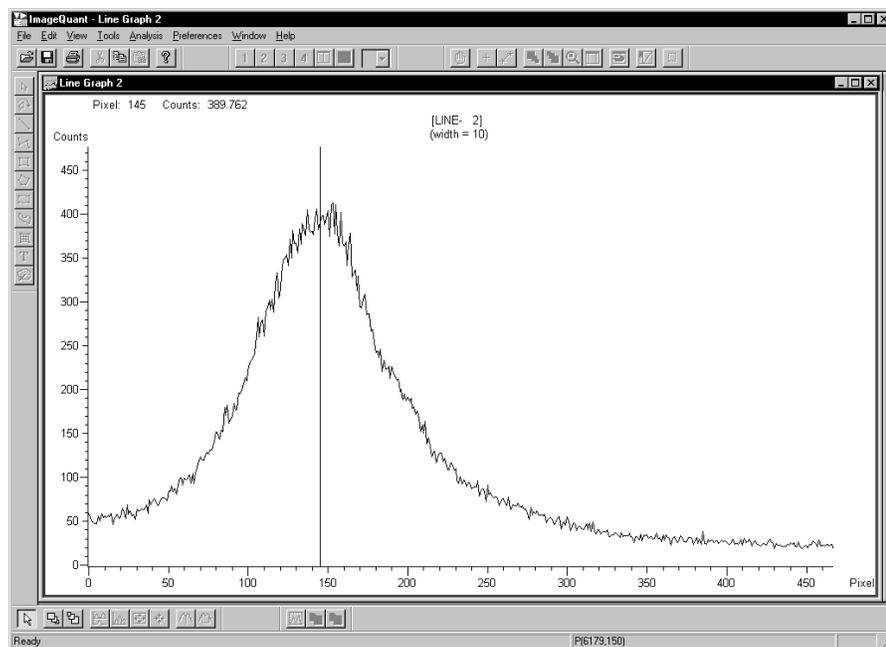

Figure 19-14. The line graph in ImageQuant.
12. Click the **Create Graph** () button on the toolbar to create a line graph for the selected capillary. The line graph appears (figure 19-14).
13. Move the pointer to the middle of the curve (this may not always be the highest point of the peak). The x- and y-axis values appear in the status bar as follows: P(x,y), where x = 6179 and y = 150 (figure 19-14).